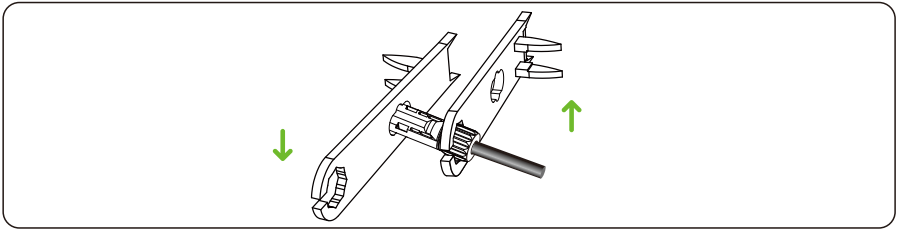

Figure 5.15 Locking connectors
Step 4 Tighten the locking nuts on the positive and negative connectors using a removal wrench, as shown in Figure 5.15.